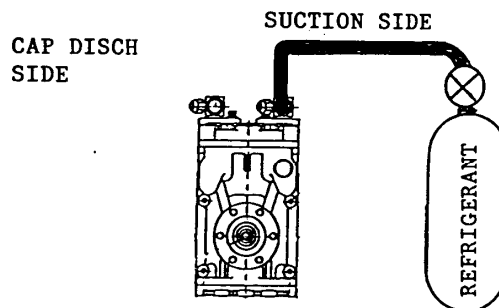

FIGURE 4
8.2 Static Test FIG. 4: Cap the discharge port. Connect a refrigerant bottle (R-12 or R-134a) to the suction service port. Open the valve on the refrigerant bottle or. Using a leak detector check for leaks. No leaks are permissible. If the service ports have back seating valves, be sure the valves are open (in the back seat position).
8.2.1 Alternate Static Test FIG 4. Cap the discharge port. Connect a source of dry nitrogen to the suction port. Apply the dry nitrogen at pressure of 85 psig ± 5. Using a soap solution check for leaks. No leaks are permissible. If the service ports have back seating valves, be sure the valves are open (in the back seat position).